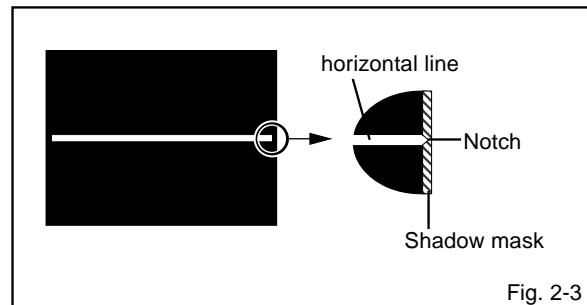

Fig. 2-3
5. Adjust the **VR404** until the horizontal line becomes fit to the notch of the shadow mask.**(Refer to Fig. 2-3).**